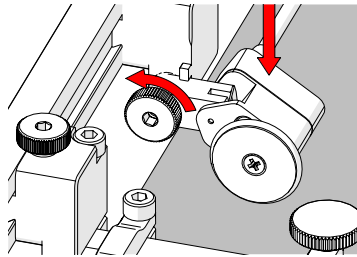

Fig. 5 - Lower encoder wheel
- Loosen the encoder's thumb screw and lower the encoder wheel's pivot joint towards the scan surface (Fig. 5).